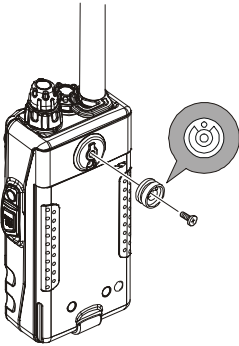

Figure 1
- ❑ Connect the hanger to the rear of the **VX-177**, with the notch pointing directly up, using the supplied screw (Figure 1). Use only the screw included with the clip to mount the clip to the back of the **VX-177**.